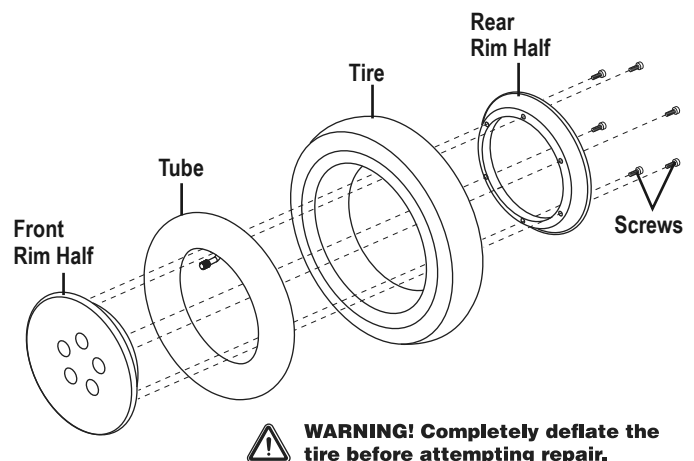

Figure 13. Drive Wheel Disassembled
6. Remove the screws and separate the front and rear rim. **See figure 13.**
10. Reinstall the hubcap, if equipped, then reinstall the three (3) or five (5) lug nuts onto the wheel hub and tighten.